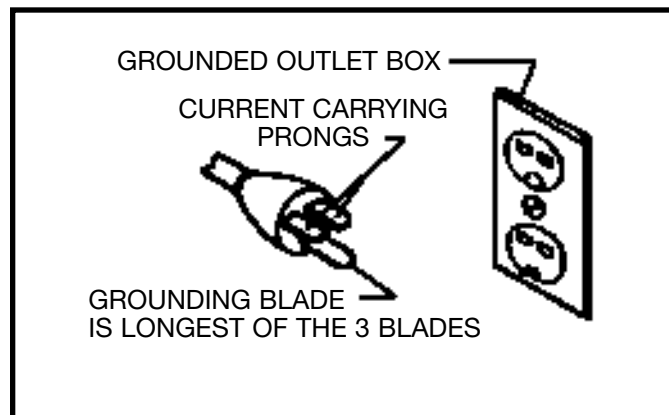

Fig. 32
6. The 120 Volt plug, supplied with the motor, must be replaced with a 240 Volt plug that has two flat, current-carrying prongs in tandem, and one round or "U" shaped longer ground prong, as shown in Fig. 32. This plug is used only with the proper mating 3-conductor grounded receptacle, as shown in Fig. 32.